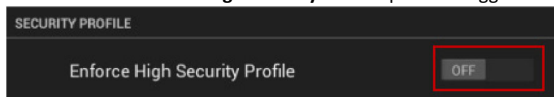

FIG. 99 SECURITY PROFILE
1. Press the **Enforce High Security Mode** option to toggle it from ON to **OFF** (FIG. 99):